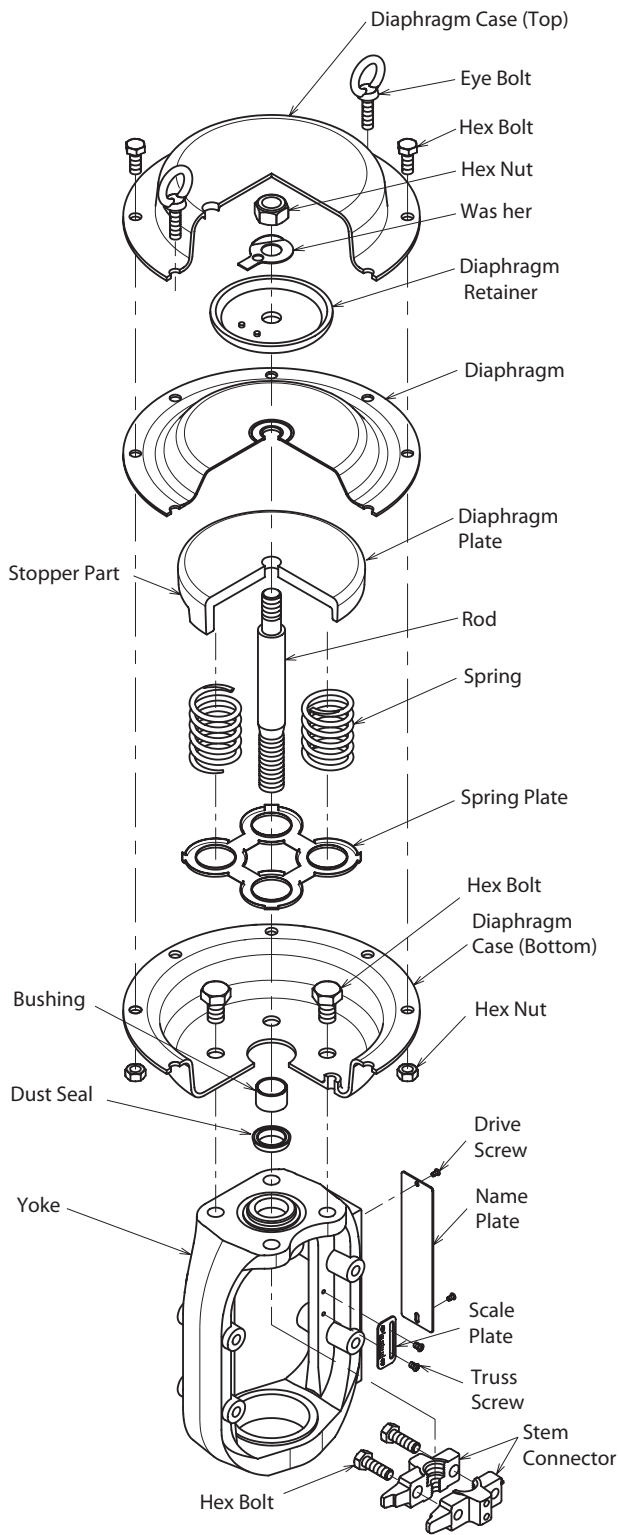
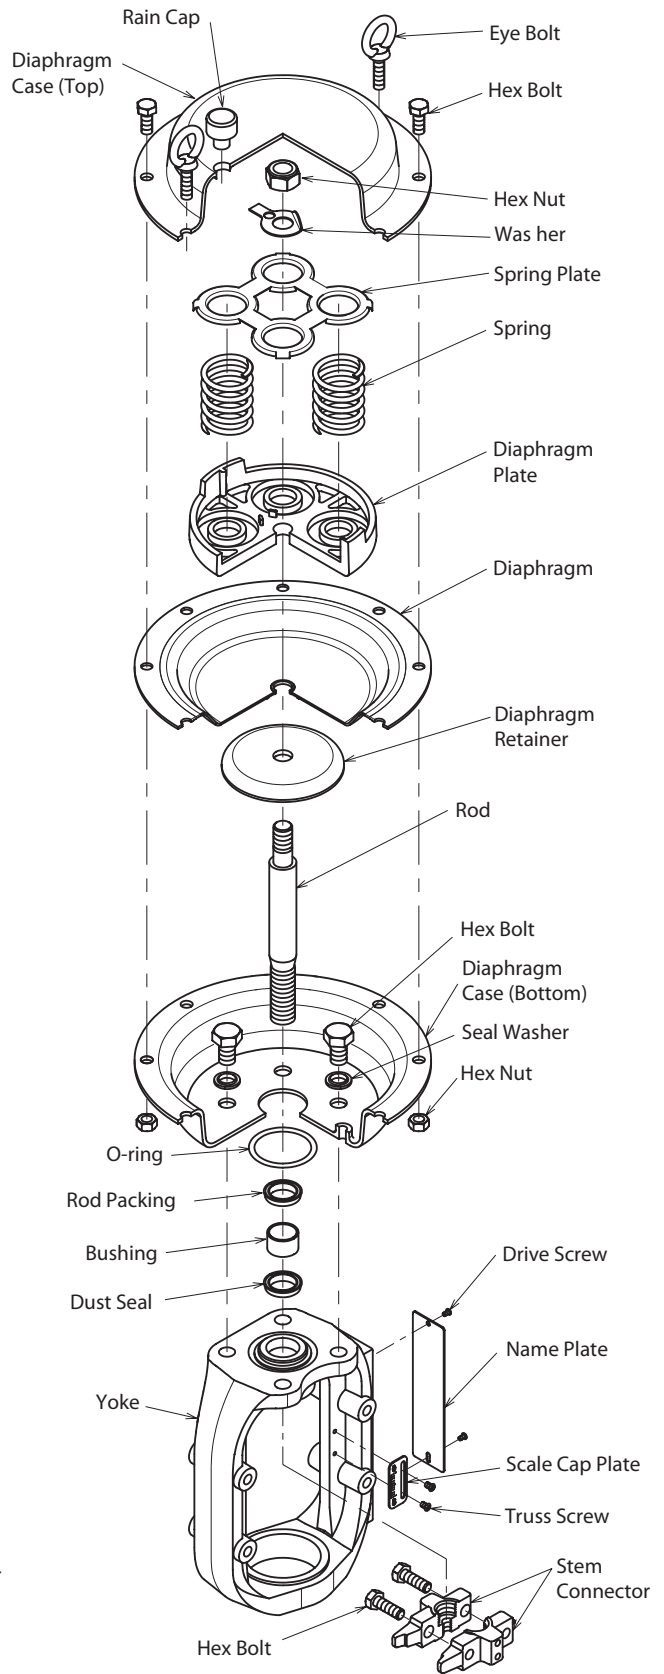

Figure 4-4 Direct Action model PSA1D
Figure 4-5 Reverse Action model PSA1R
A. Direct action model (see Figure 4-4)
- (1) Disconnect the air piping and detach the accessories from the actuator.
- (2) Remove the stem connector.
- (3) Remove the clamping bolts (except the pair of eyebolts) from the diaphragm case.
- (4) Alternately and evenly loosen the pair of eyebolts. The initial setting of the springs is achieved using these eyebolts.
- (5) Removing the diaphragm case. Pull the actuator rod upward and out together with the diaphragm.
- (6) Take out the springs.
B. Reverse action model (see Figure 4-5)
- (4) Alternately and evenly loosen the pair of eyebolts. The initial setting of the springs is achieved using the eyebolts.
- (5) Remove the diaphragm case. Take on the springs.
- (6) Pull the actuator rod upward and out together with the diaphragm.
Install packing for the rod and dustseal in the correct direction. Refer to Figure 4-4.
Refer to Figure 4-5.